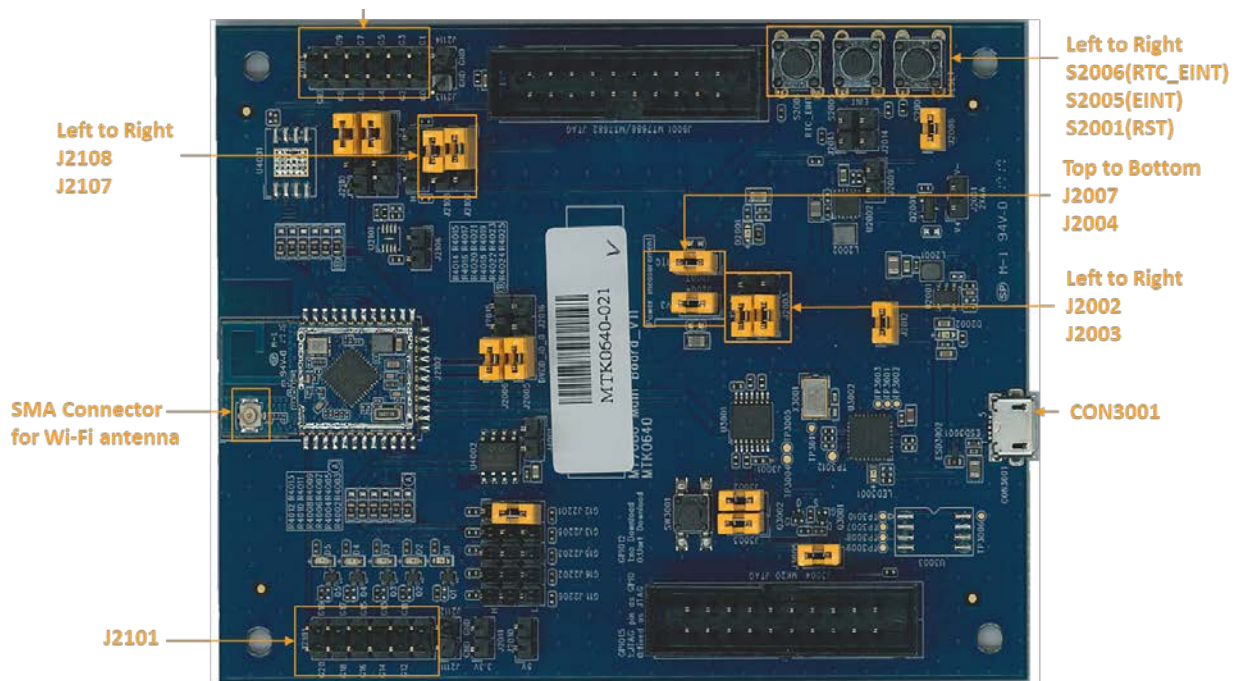
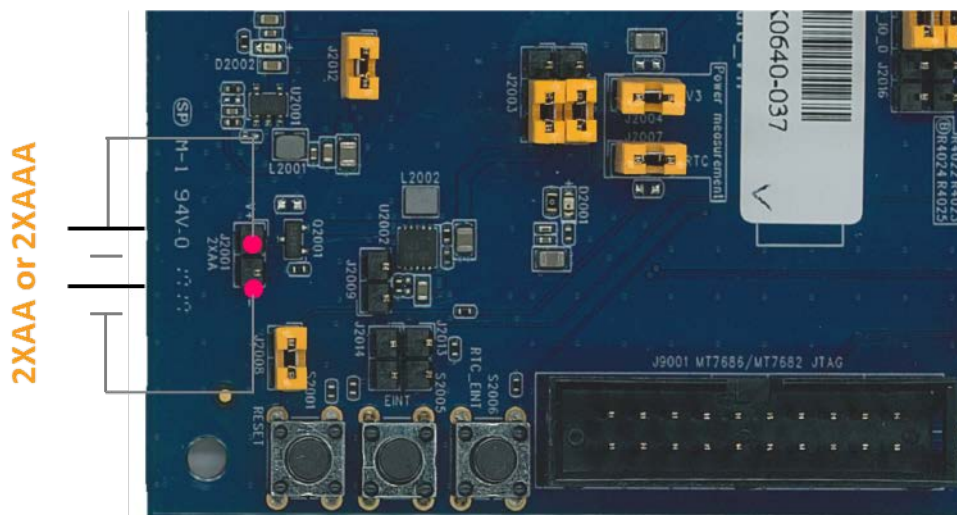

Figure 2. Jumpers and connectors on the MT7682 HDK
Figure 5. Power up the HDK using an AA or AAA Battery (J2001)
MT7682 HDK includes a main board (MT7686 Main Board_V11) and a MT7682 stamp module. The MT7682 stamp module is mounted on the main board. The top view of the main board is shown in Figure 2.
The description of pins (Figure 2) and their functionality is provided below.
The development board should now be connected to the PC, as shown in Figure 2.
An on-board switching regulator provides voltage of 3.3V for the MT7682 HDK based on MT7682, if the power is supplied from an on-board micro-USB connector **CON3001** (Figure 2). This supply can be isolated from the switching regulator using the jumpers. Note, that the jumpers **J2002** pin 1 and 2, **J2003** pin 1 and 2, **J2004** and **J2007** are required to be set on. More details on the jumpers can be found in Table 1.
- Connect an external AA battery to battery pin header (**J2001**) to supply power to the system, as shown in Figure 5. When using an AA battery, plug the USB to micro-USB connector **CON3001** (Figure 2). Note, that the jumpers J2002 pin 2 and 3, **J2003** pin2 and 3, **J2004**, and **J2007** are required to be set on. More details on the jumpers can be found in Table 2.